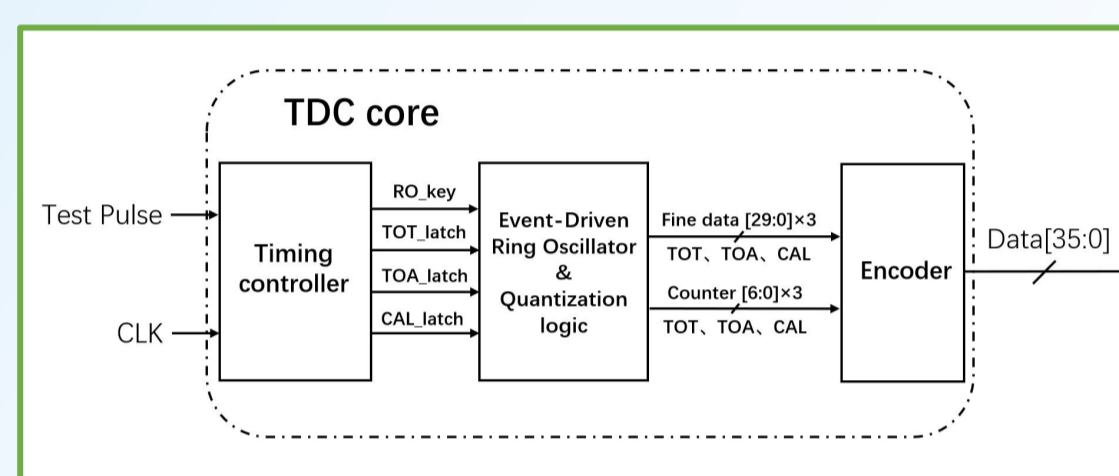

Fig.2. TDC core
- ❖ The TDC core (Fig. 2) comprises three parts: an event-driven ring oscillator with quantization logic, a timing controller, and an encoder, supporting simultaneous TOA, TOT, and CAL measurements.